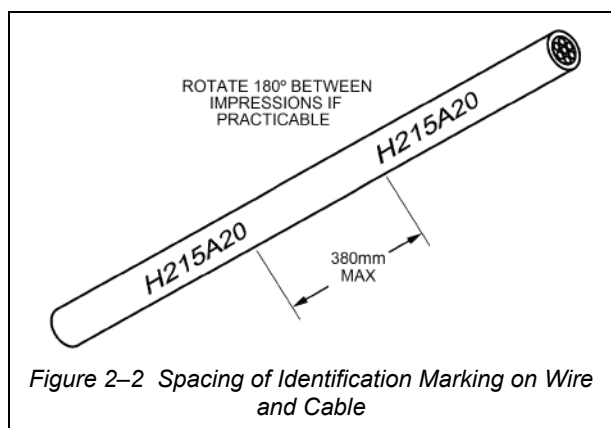

Figure 2-2 Spacing of Identification Marking on Wire and Cable
31. Mark wires and cables at intervals of not more than 38cm along their entire lengths (refer Figure 2-2).